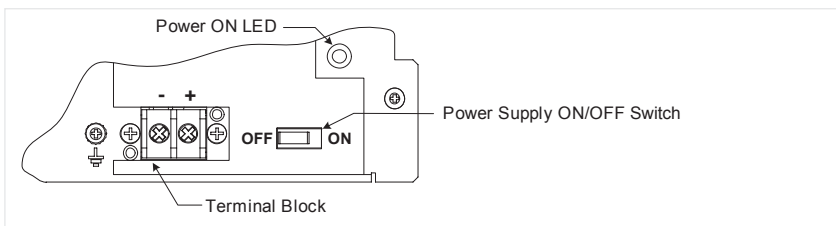

Figure 4: Power Supply Power ON LED, Terminal Block and ON/OFF Switch
1. Slide the power supply ON/OFF switch to OFF, as shown in Figure 4.